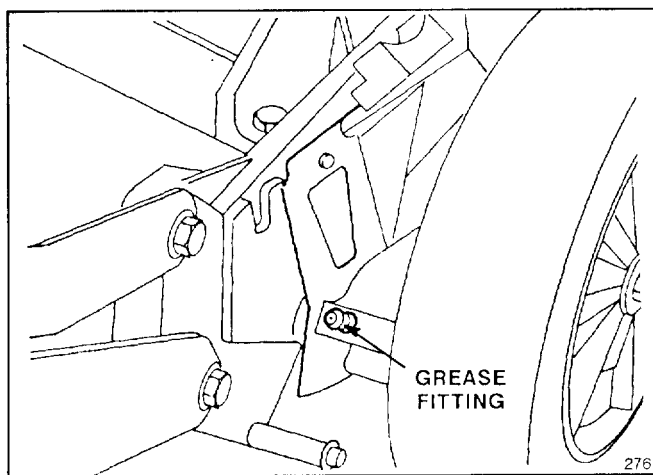

Figure 20
2. Move rear wheel height-of-cut levers to “C” setting. Wipe grease fittings with clean rag (Fig. 20). Install grease gun onto fitting and gently apply two or three pumps of #2 Multi-Purpose Lithium Base Grease.